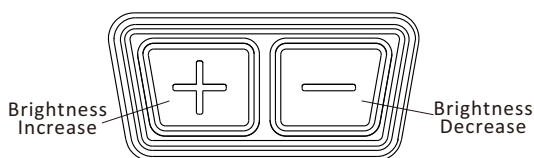

Fig5
1. Switch on: Press and release either brightness button ("+" or "-") to turn on the sight, See Fig 5.